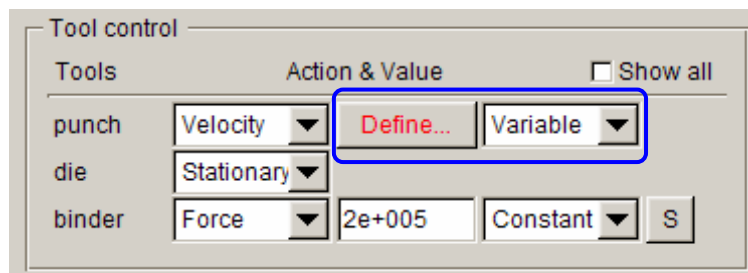
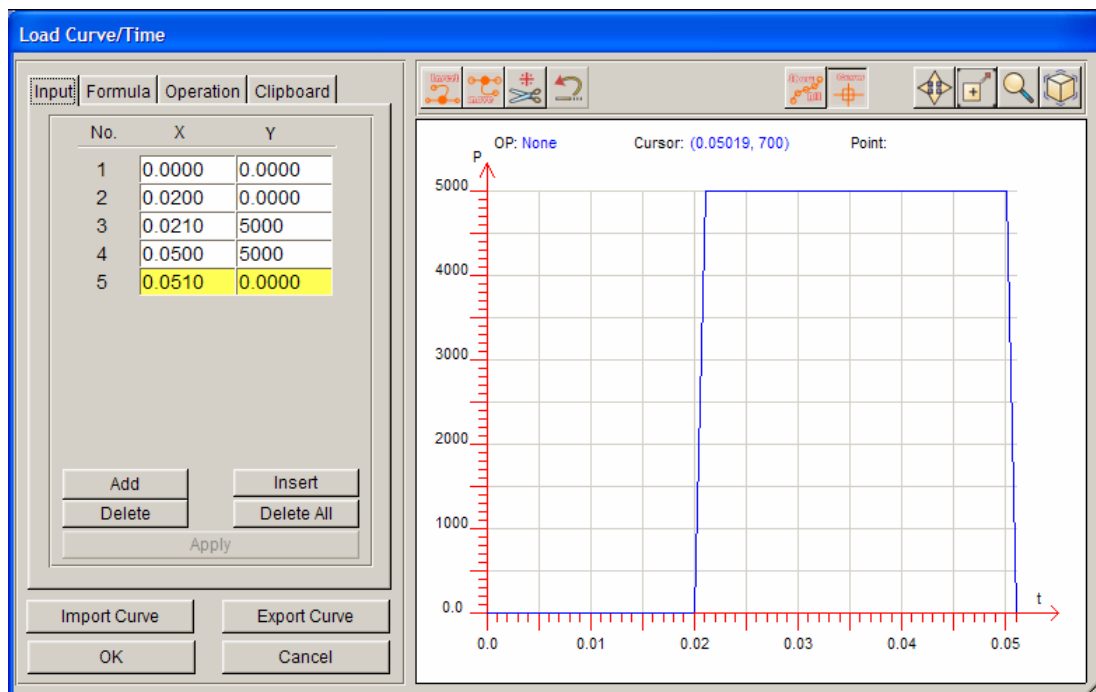

Figure 7.43 Tool control
Figure 7.44 Punch load curve definition
- From Tool control field illustrated in Figure 7.43, click the drop-down button of punch to select **Variable** option. Then, click **Define...** button to display the LOAD CURVE/TIME dialog box illustrated in Figure 7.44.
- Use functions provided in Input page to key in the punch load curve illustrated in Figure 7.44.